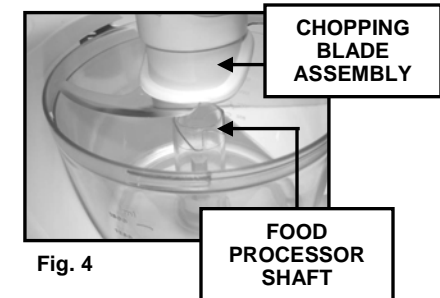

Fig. 4
- After having assembled the chopping blades, carefully place the chopping blade assembly onto the shaft of the food processor bowl. (Fig. 4) Ensure that the blades are securely in place before continuing.
- Once the food processor bowl is securely in place, remove the protective blade cover from the lower chopping blade and carefully place the lower chopping blade onto the shaft of the food processor bowl. (Fig. 4)